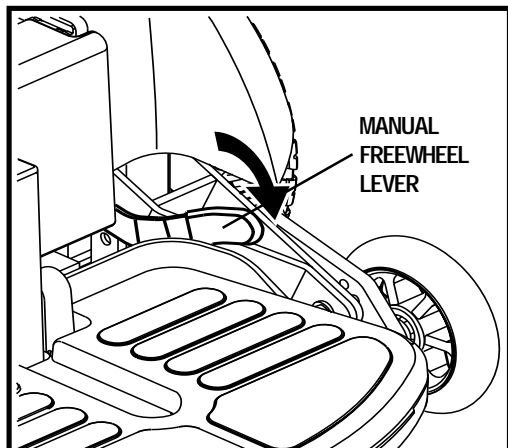

Figure 8. Drive Mode (Drive Engaged)
For convenience, your power chair is equipped with two manual freewheel levers—one for each motor. See figures 8 and 9. These levers allow you to disengage the drive motors from the gearboxes and maneuver the chair manually. This is called freewheel mode.
2. Push the levers down to engage the drive motors. See figure 8.